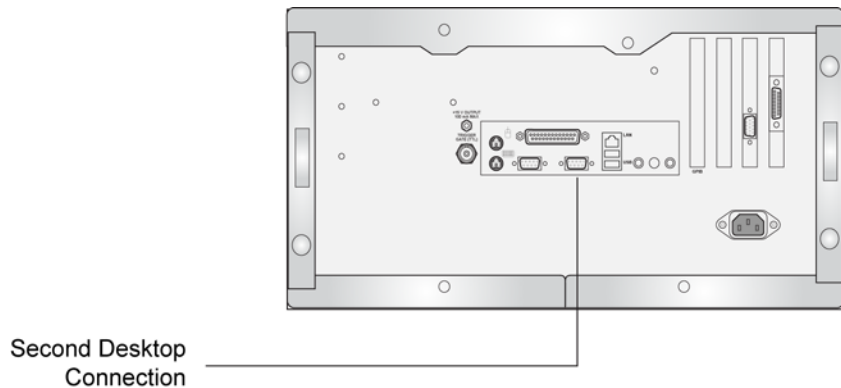

Figure 1-27. External Monitor Connector
- 1 Connect the display cable to the rear-panel VGA connector. This connector is labeled External Display on Figure 1-27.
The rear-panel VGA connector labeled Second Desktop Connection on Figure 1-27 is provided for use of the Windows second desktop feature. Refer to Windows XP Help for information on using a second desktop.